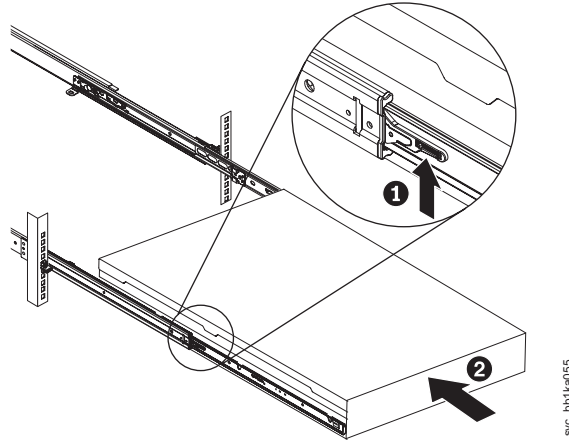

Figure 83. Raising the locking levers of the slide rails of the rack
7. If you pulled out the node to the fully-extended position on the rack, lift the locking levers (**1** in Figure 83 on page 101) on the slide rails and push the server **2** all the way into the rack until it clicks into place.